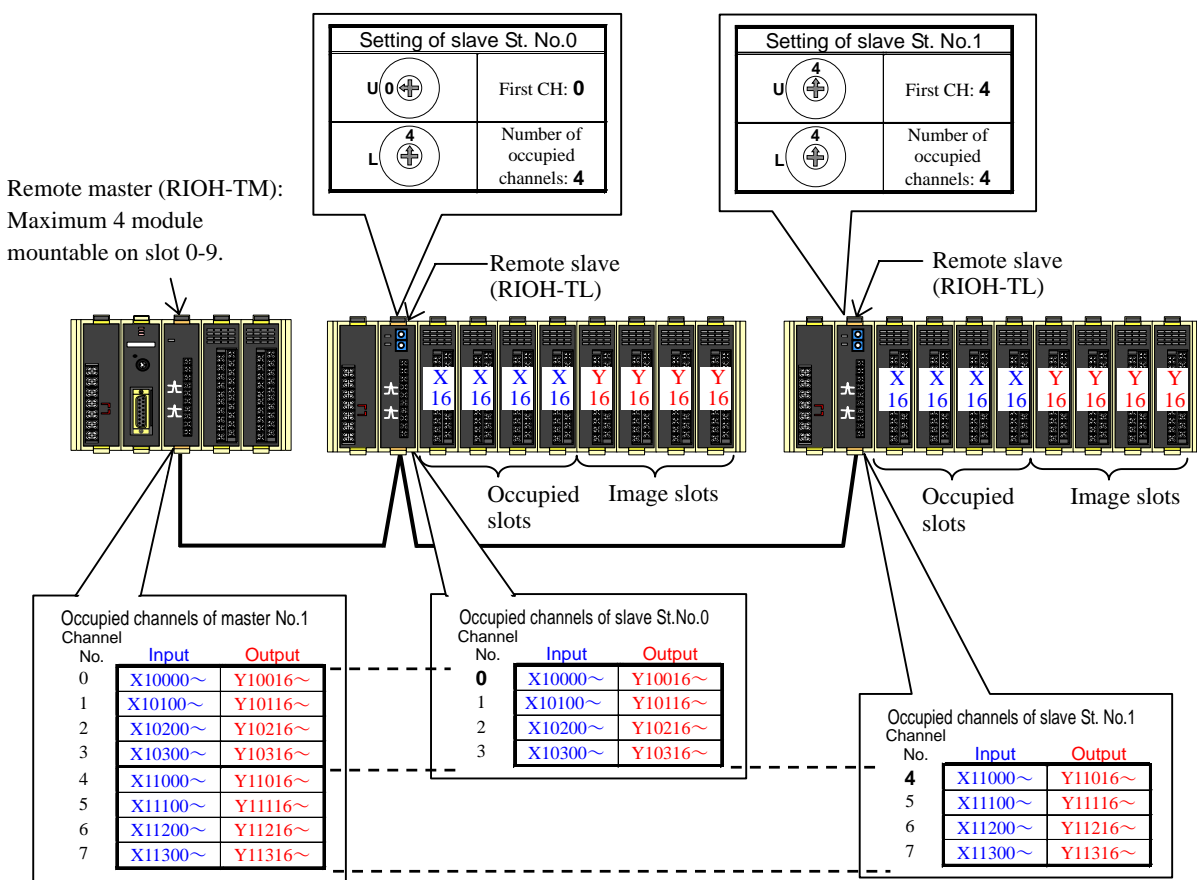
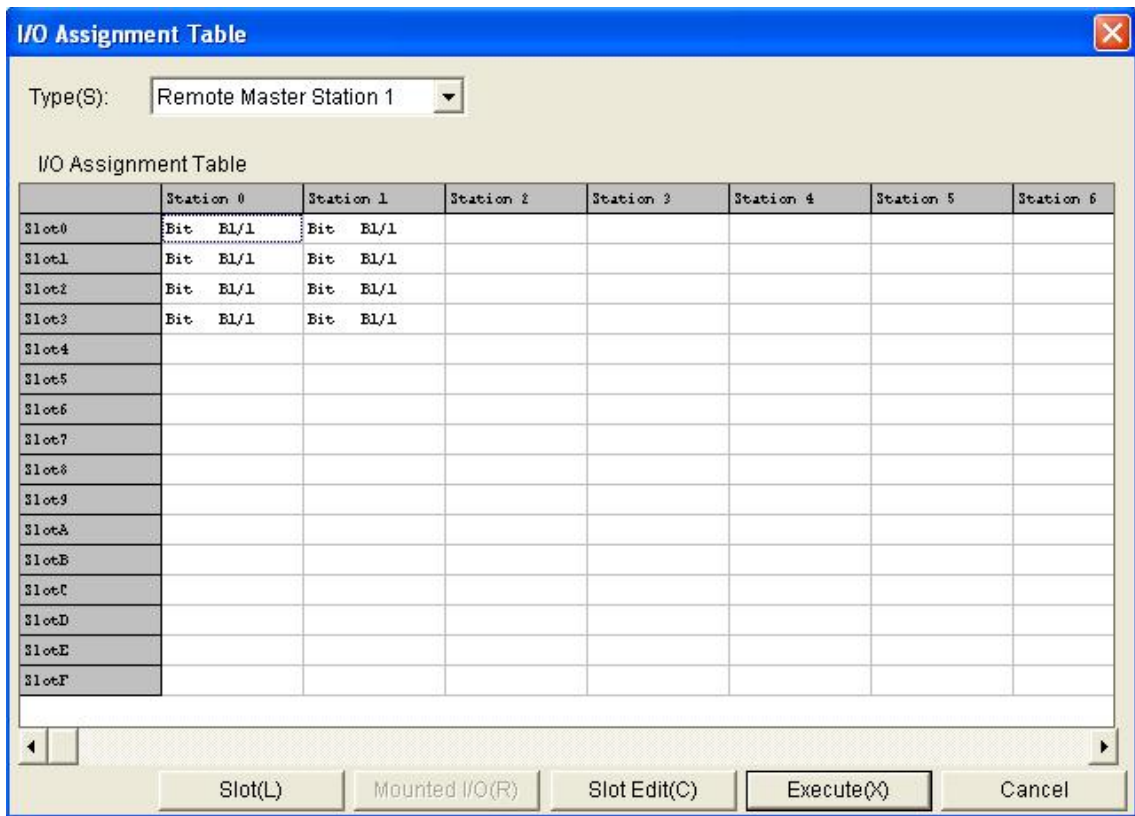
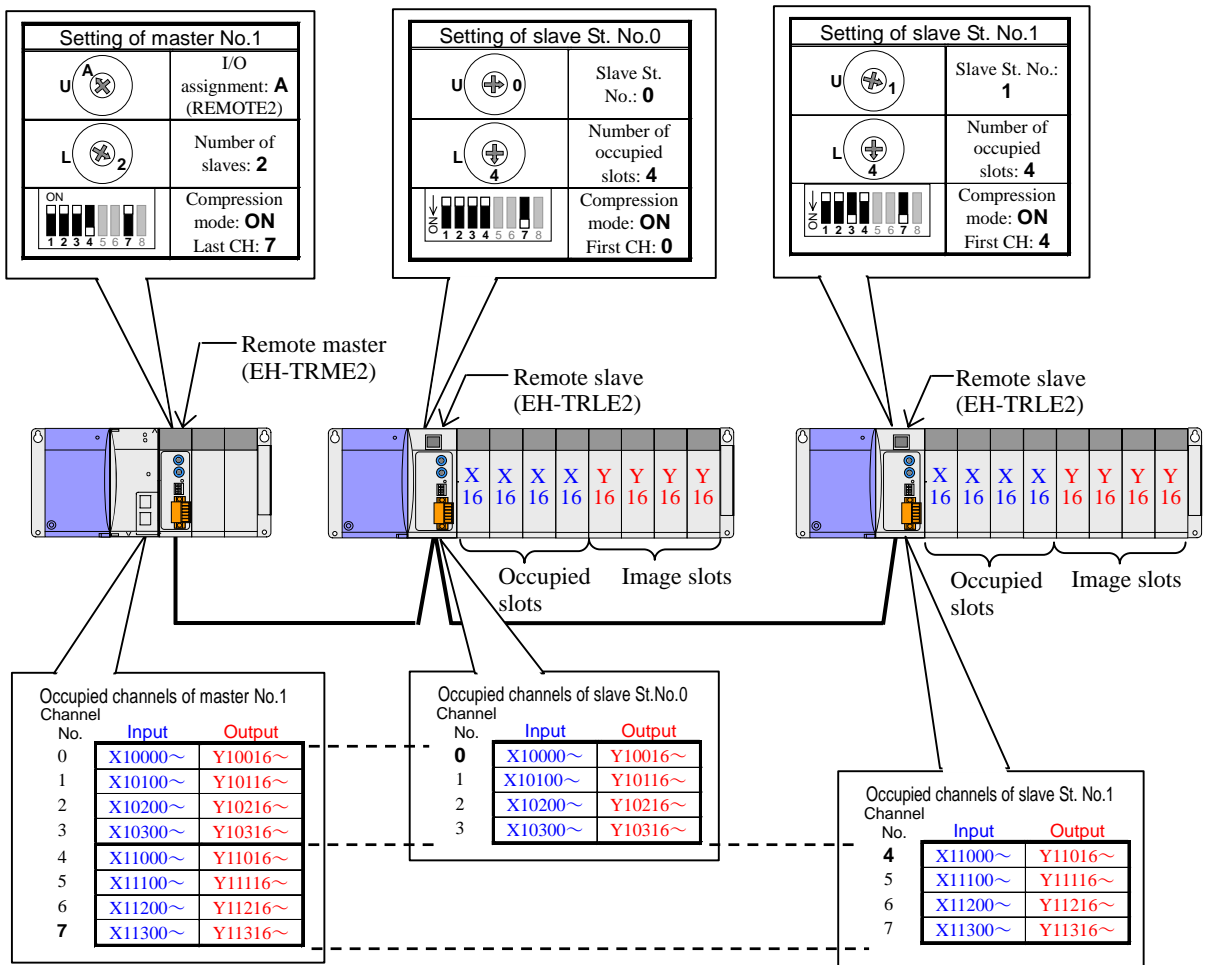

Figure 4.4.4 System configuration example of the H-200 series (Using image slots)
Figure 4.4.5 I/O assignment example of remote I/O
Figure 4.4.6 System configuration example after replacement to EH-150 (Using image slot)
This system configuration example is shown in Figure 4.4.4. I/O assignment of this system is shown in Figure 4.4.5. Figure 4.4.6 shows the system configuration example replaced to EH-150.
If you replace this system to EH-150 series with compression remote method, output modules on occupied slots don't operate normally. Please use normal remote method for this case, and change I/O assignment for I/O modules on remote base from “X1Y1W (B1/1)” to “X16” or “Y16”, and change related I/O numbers in program. Figure 4.4.6 is an example of replacing all of master and slave modules with the EH-150 series. It is also possible to leave all or partially slave modules like the H-200 series in order to postpone the wiring work of slaves. In this case, please turn off high-speed refresh mode (HS) of a front DIP switch of the master module and the slave modules.
(Assignment of Figure 4.4.4 configuration example by Ladder editor)